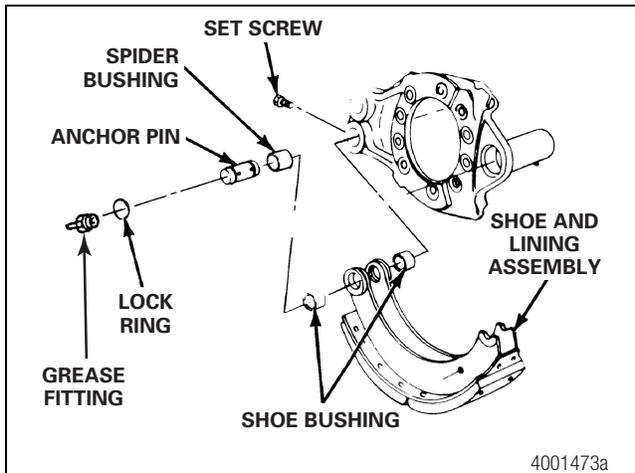

Figure 5.24
- A. For a straight anchor pin with a lock ring and set screw, place the anchor pin through the shoes and into the shoe side of the spider. Align the hole in the pin with the set screw hole in the spider. Figure 5.24.